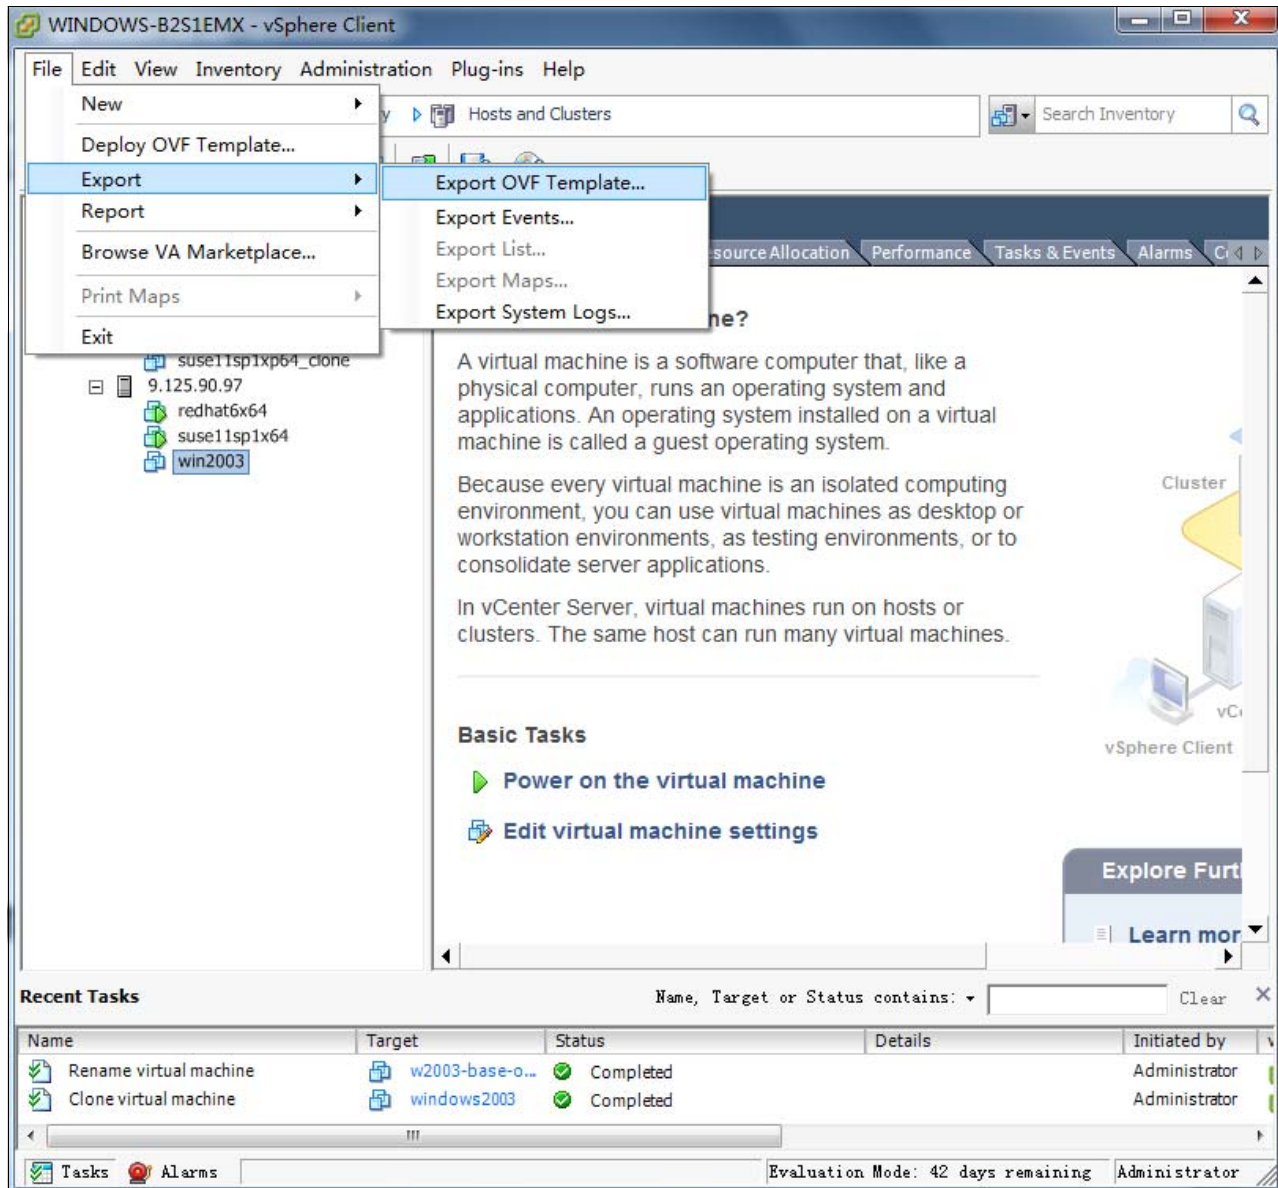

Figure 3-28 Export OVF Template
10. In the vCenter Console, select the virtual machine for which you want to capture the image and click **File** → **Export** → **Export OVF Template**, as shown in Figure 3-28.